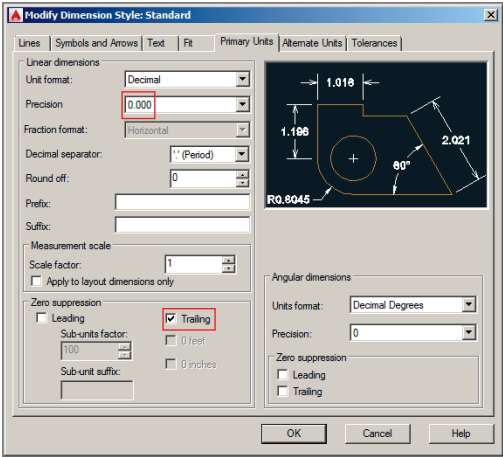

FIGURE 11.4 Configuring dimension style primary units
3. Select the Primary Units tab in the Modify Dimension Style: Standard dialog box (Figure 11.4). Set Precision to 0.000 in the Linear Dimensions section. (If you are in a country that uses a comma instead of a period as a decimal separator, select "," (Comma) in the Decimal Separator drop-down menu.) Select Trailing in the Zero Suppression section (see Figure 11.4).